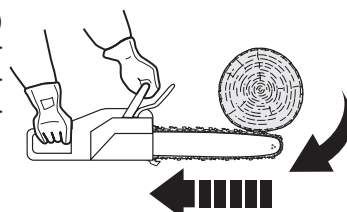

Fig. 36
- > Pinching of the saw chain (3) along the top of the guide bar (4) may push the guide bar rapidly back toward the operator (Fig. 36).